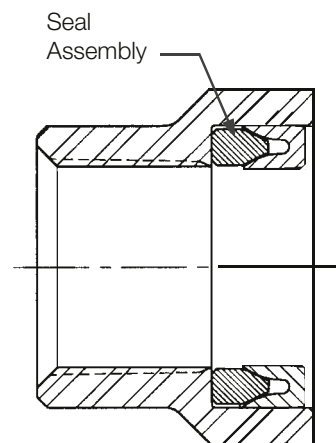

Figure 2.
6. Examine the lips of the seal for wear and replace if necessary. The seal assembly must be inserted into the retainer with the lips entering as shown in figure 2.